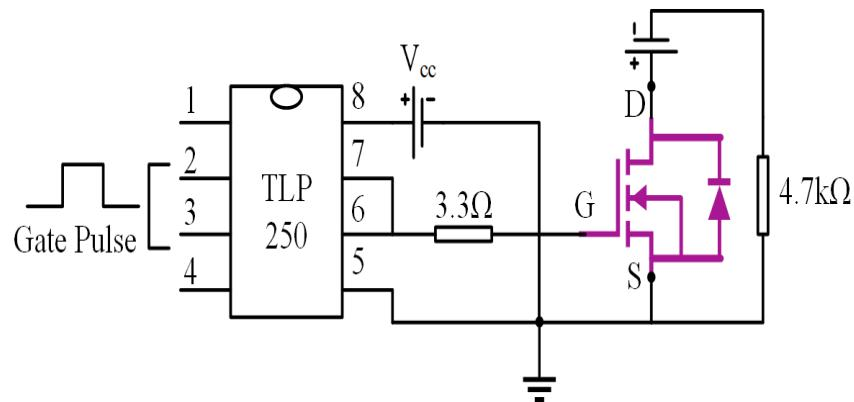

Figure 1 Gate driver circuit with a MOSFET
- 1) Make the connections as shown in the figure 1.